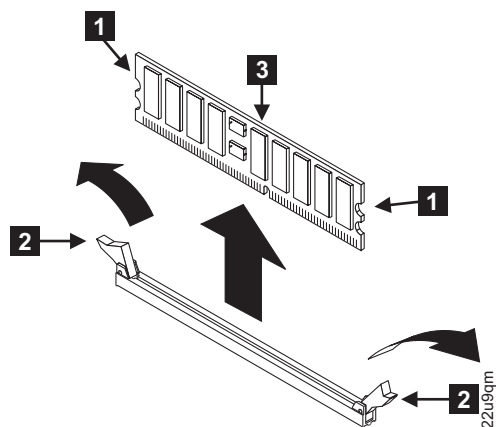

Figure 110. Removing the memory modules
6. Open the clips **2** by pressing them outward, as shown in Figure 110. This action pulls the memory module **3** out of the connector.